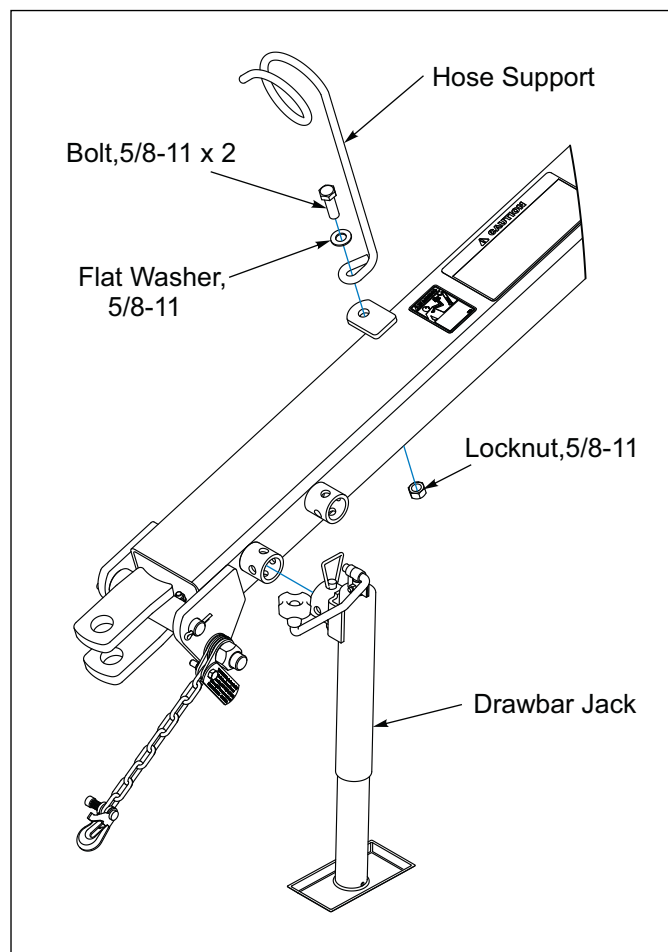

Figure 2-7: Hose Support and Jack
6. Mount the Hose Support to the Drawbar using 5/8-11 x 2 Bolt, Flat Washer and Locknut. **See Figure 2-7.**
7. Attach the Jack using the pin provided. Attach the Manual Storage Canister using two Hose Clamps. **See Figure 2-7.**